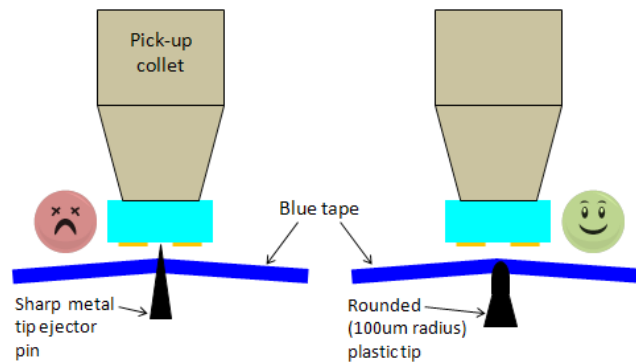

Figure 8. Sharp ejector pin tip may damage the LUXEON FlipChip (left). A rounded plastic tip minimizes the risk of damage caused by ejector pin (right).
2. Die attach ejector pin selection. Unlike the top of LUXEON FlipChip, the bottom (underneath the sapphire) is the epitaxial material where the p-n junction is located. It is not mechanically protected and can be damaged if a sharp and hard ejector pin material is used (Figure 8). Lumileds recommends an ejector pin with a plastic tip radius of 100mm to minimize the risk of mechanical damage. When setup properly, the ejector pin should not puncture through the tape. An example of a plastic tip ejector pin is made by Micro-Mechanics ([www.micro-mechanics.com](http://www.micro-mechanics.com)), part number SEN5-T07-170-010-20.